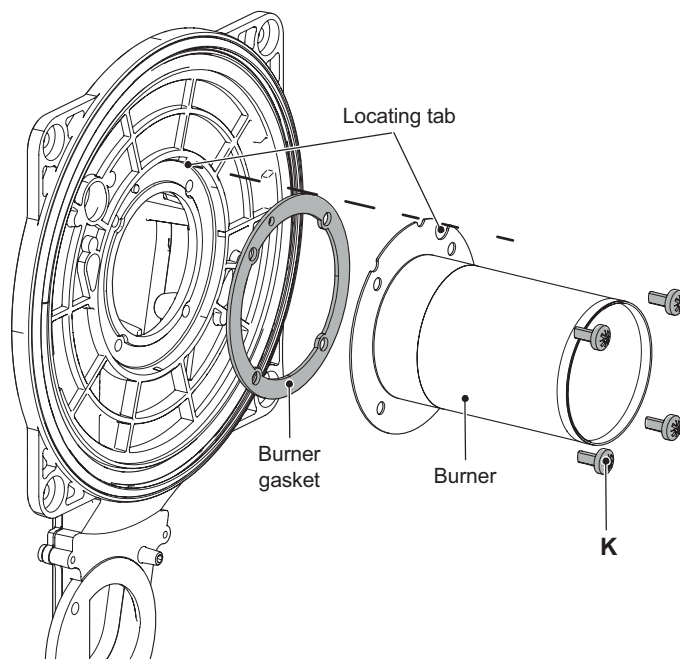

Figure 11.5
- 5 Unscrew the screws "K" (Figure 11.5) and remove the burner.
- 6 Assemble the burner carrying out the removal operation in reverse order. Ensure the burner is correctly located by lining up the locating tab (Figure 11.5).